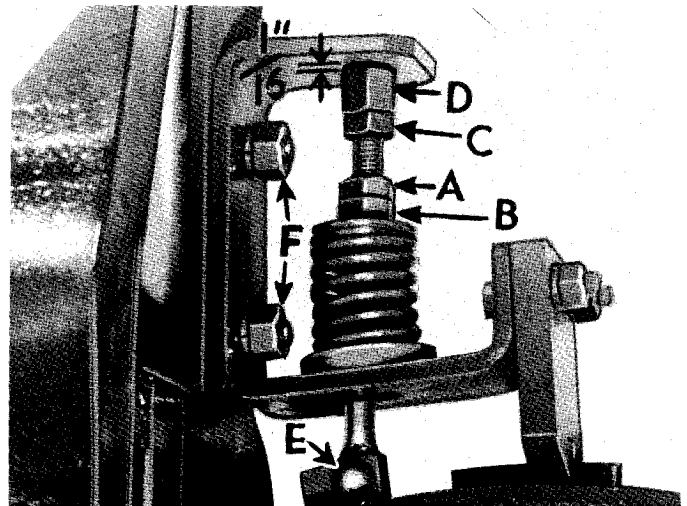

FIG. 9b
The left drum brake band is supported by two of the compression spring suspension assemblies shown in Figure 9b. The right drum brake band has one of these assemblies at the rear of the band and a tension spring supporting the front of the band. A guide bar to limit the clearance between the band and the housing is bolted to an extension of the auxiliary lever stand.
1. Take out the pins "E" connecting the compression spring assemblies to the band and remove the assembly by taking off the nuts "F" (See Fig. 9b). (On the right brake band take off the nuts on the tension spring assembly and remove the guide bar bolted to the bracket on the auxiliary lever stand.)